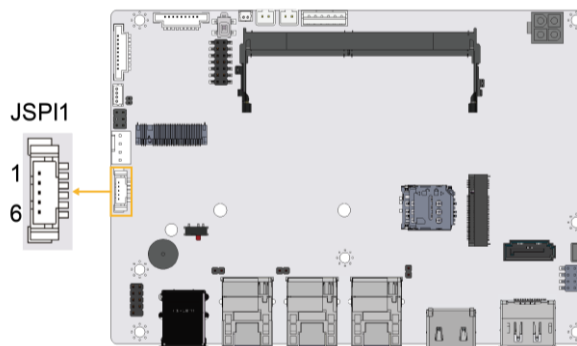

Figure 4-12: SPI Flash Connector Location
- CN Location:** See **Figure 4-12**